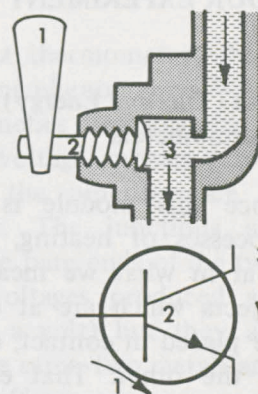

Figure 5.
A transistor operates much like a valve, as shown in Figure 5. A small current from the *base* (B) to the *emitter* (E) through the base-emitter junction can control relatively large currents from the *collector* (C) to the *emitter* through the collector-emitter junction. This feature of a small current controlling a large one is called *amplification*, and it is this property that makes transistors useful.\*